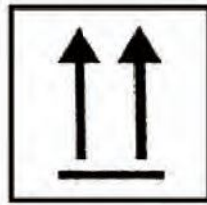

FIG 9-1
2)The shipment should be vertical upward, as shown in the figure 9-1.